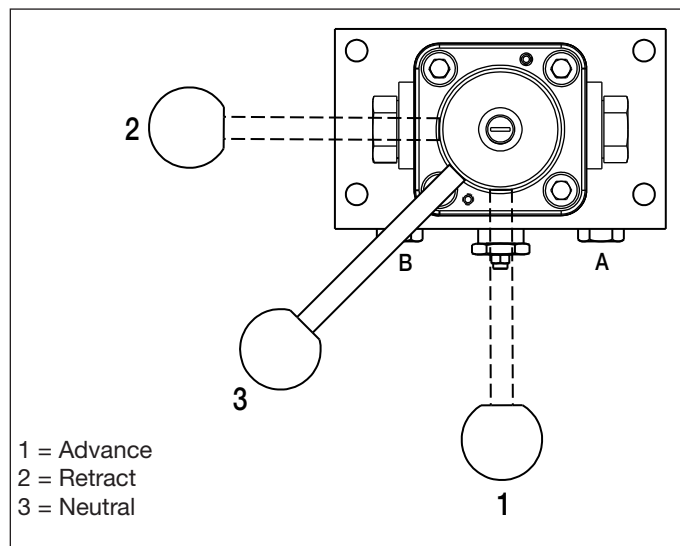

Figure 12, Valve Handle Positions, VM33M, VM43M
4. Rotate the control valve handle to the neutral ("3") position. See Figure 11 for VM33 and VM43 valve positions. See Figure 12 for VM33M and VM43M valve positions.